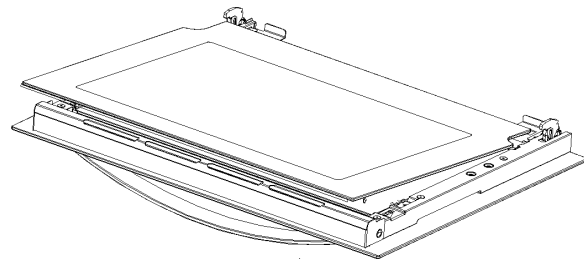

Figure 4
3. To sideling extract the inside glass, as shown in figure 4
4. To sideling extract the inside glass, as shown in figure 4
2. To sideling extract the inside glass, as shown in figure 4